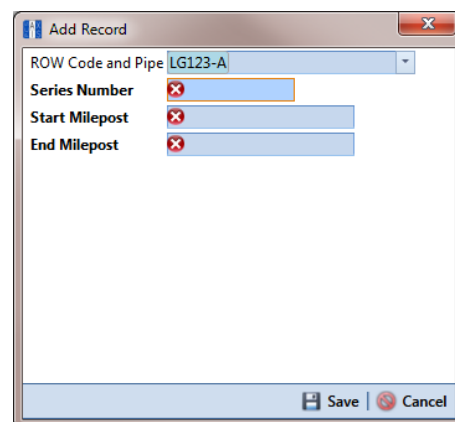

Figure 3-47. Add Record
- 5 Click  **Save** to display required field(s) for data entry. Required fields are identified with the  icon, such as *Series Number*, *Start Milepost*, and *End Milepost* in the next figure (Figure 3-47).